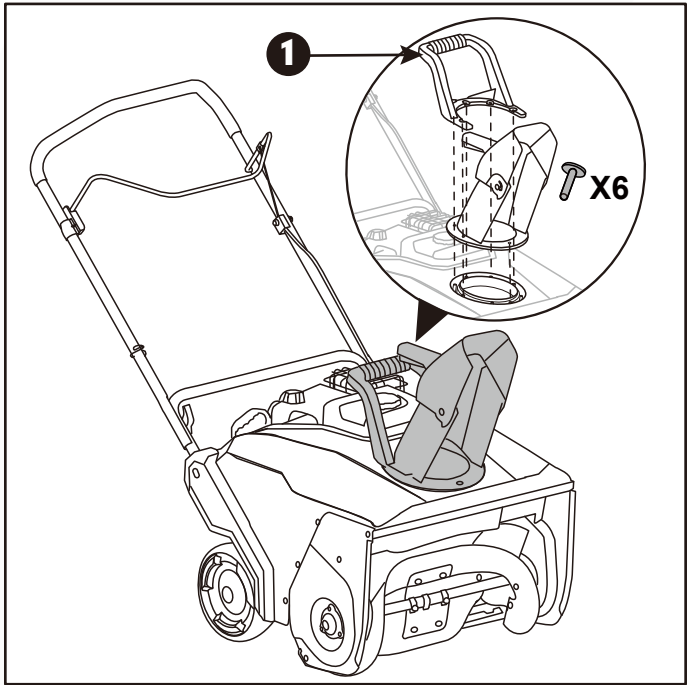

Fig.3B
- 2. Place the chute rotation handle over the chute and align the holes. (Fig.3B)
- 3. Attach the discharge chute with handle to the snow blower body using the six screws provided. (Fig.3B)